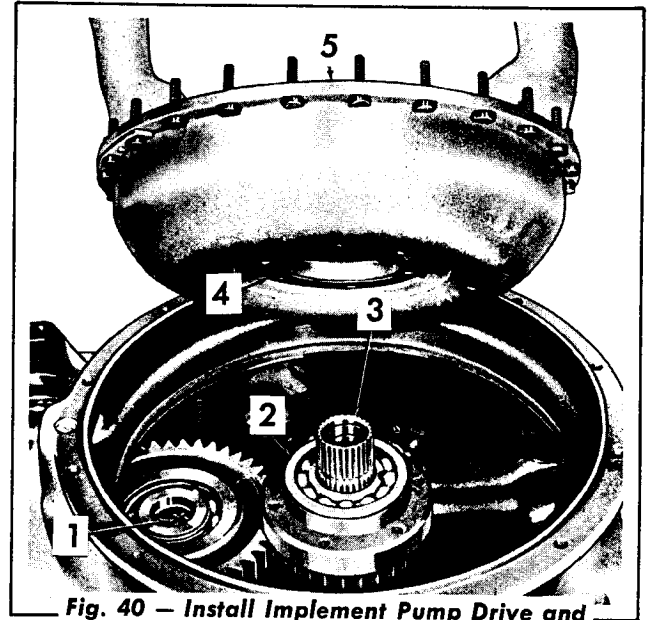

Fig. 40 — Install Implement Pump Drive and Converter Pump Assembly
4. Install the idler gear spindle retainer cap-screw (Fig. 40). Install the pump gear and bearing assembly onto the converter